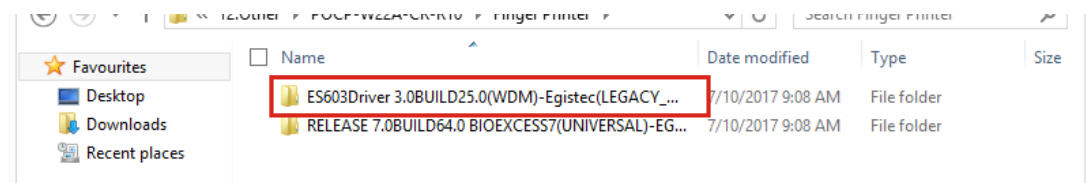

Figure 5-26: Fingerprint Reader Driver Folder
Step 1: The fingerprint reader driver is located in the following folder (**Figure 5-26**):